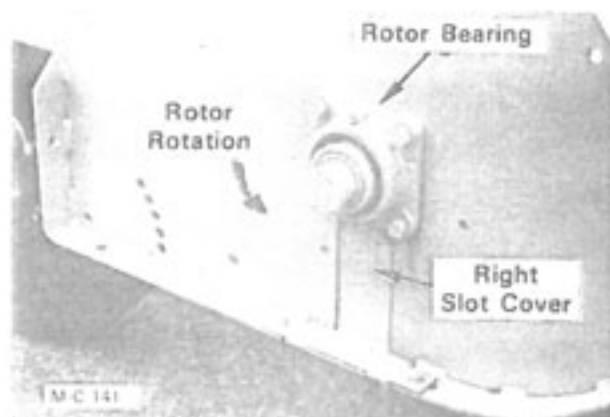

Figure 19
- A. Remove the right slot cover, see Figure 19.